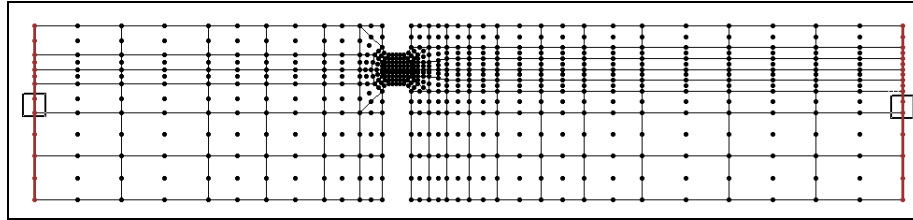

Figure 15-2. Location of the boundary condition nodestrings.
A steady state model such as this can only have constant boundary conditions. The flow and head boundary conditions will be defined at nodestrings on opposite sides of the model as shown in Figure 15-2. To create the two boundary nodestrings:
1. Choose the *Select Nodestrings*  tool from the *Toolbox*. An icon appears at the center of each nodestring, as shown in Figure 15-2.